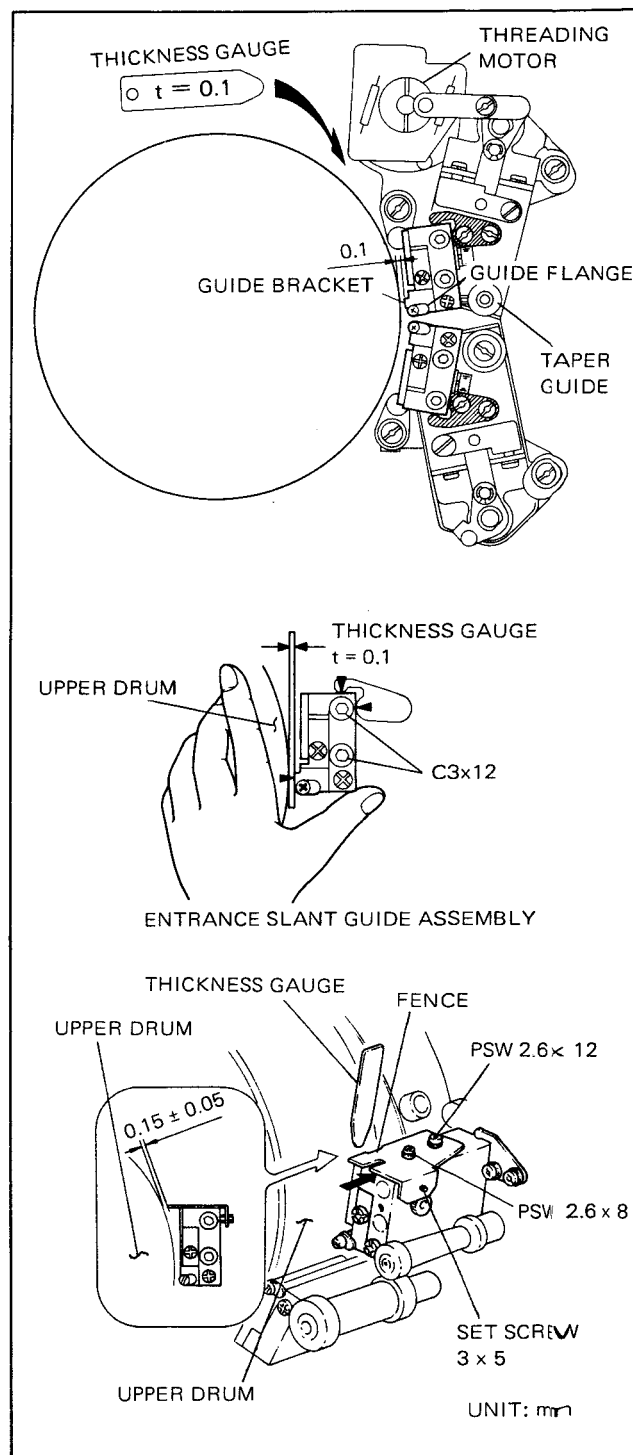

Fig. 6-28. Entrance Slant Guide Assembly Position Adjustment
20. Insert a 0.1 mm thickness gauge between the guide bracket and the upper drum (see Fig. 6-28). Pressing the entrance slant guide assembly to come in contact with the three points indicated by ▲ in the figure, tighten the two C3×12 screws firmly.
- ① While pushing the fence in the direction shown by arrow in Fig. 6-28 and also pushing it toward the lower drum so that the lower of the fence touches the cylinder of lower drum, and lightly fix the fence with two screws PSW 2.6 × 12 and PSW 2.6 × 8.
- ② Adjust the setscrew so that the clearance between the upper drum and the fence is 0.15 ± 0.05 mm. After adjustment, securely tighten the screws which were tightened loosely in the former step.
- ③ Confirm that the tip of the setscrew touches the entrance slant guide block, and glue the setscrew tightened in step 2 with adhesive like a retaining compound.